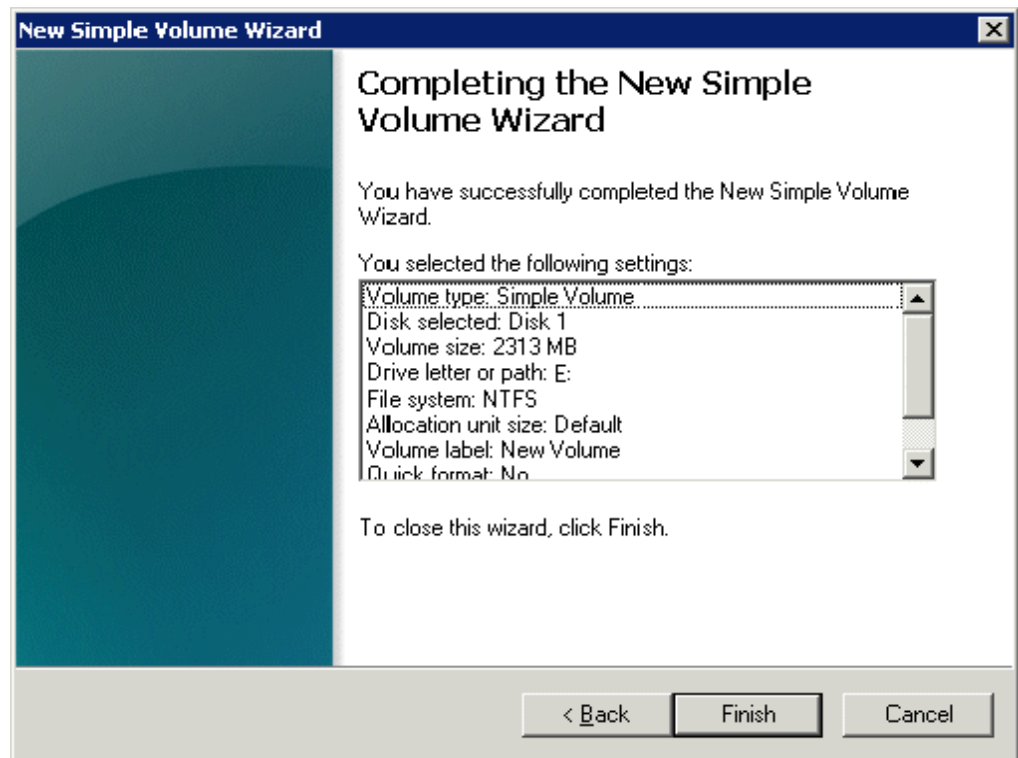

Figure 2-21: Successful Formatting Confirmation Panel
9. When the format operation finishes, click **OK**. The New Partition Wizard displays the new partition (Figure 2-21 on page 2-25). Click **Finish** to close the New Partition Wizard.